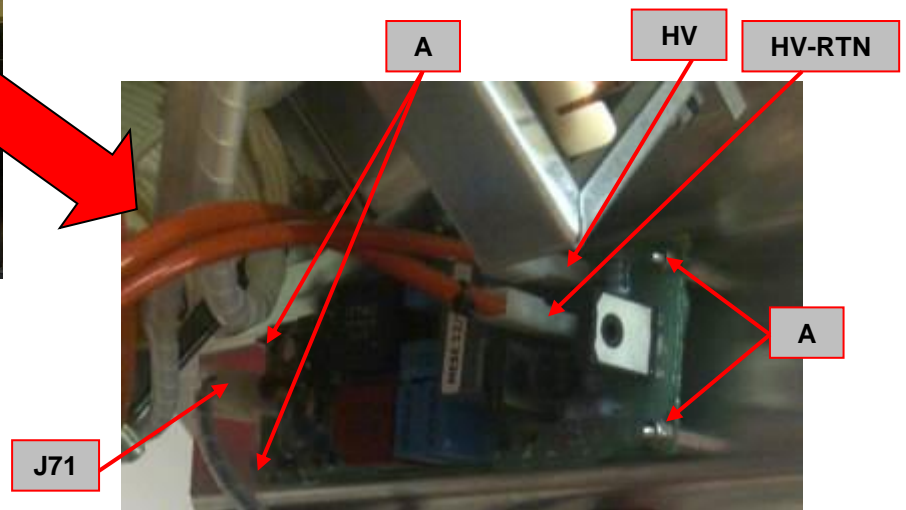

Figure 45
4. Disconnect the two HF transformer terminals **HV** and **HV-RTN**. Take note about the lead marked with a black tie , it must be re-connected to the same terminal. See **Figure 45**
5. Remove connector **J71** from HF board. See **Figure 45**
6. Using the 5,5 mm wrench remove the 4 nuts (**A**) that fix the HF board to the machine frame. See **Figure 45**